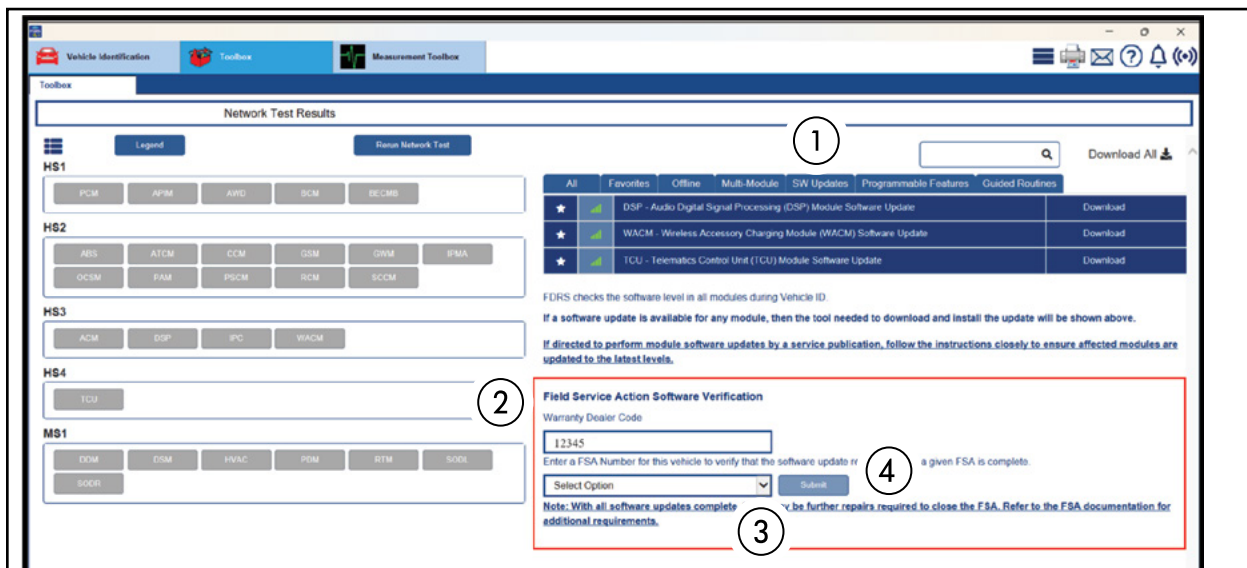

FIGURE 1
13. Select the **SW Updates** tab (1). See Figure 1.
14. **Warranty Dealer Code** (2) - Change the displayed PA code as necessary. See Figure 1.
15. Select the **FSA** (3) from the drop-down menu. See Figure 1.
16. Select **Submit** (4). See Figure 1.